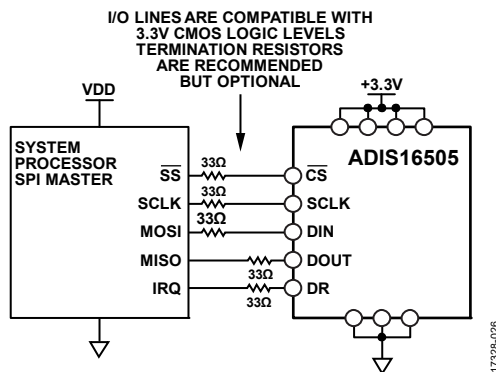

Figure 34. Electrical Connection Diagram
The SPI provides access to the user registers (see Table 9). Figure 34 shows the most common connections between the ADIS16505 and a SPI master device, which is often an embedded processor that has a SPI-compatible interface. In this example, the SPI master uses an interrupt service routine to collect data every time the data ready (DR) signal pulses.
Figure 34 shows the typical SPI connection. The 33  $\Omega$  series resistors shown in Figure 34 are recommended but not required. Additional information on the SPI can be found in the Applications Information section.